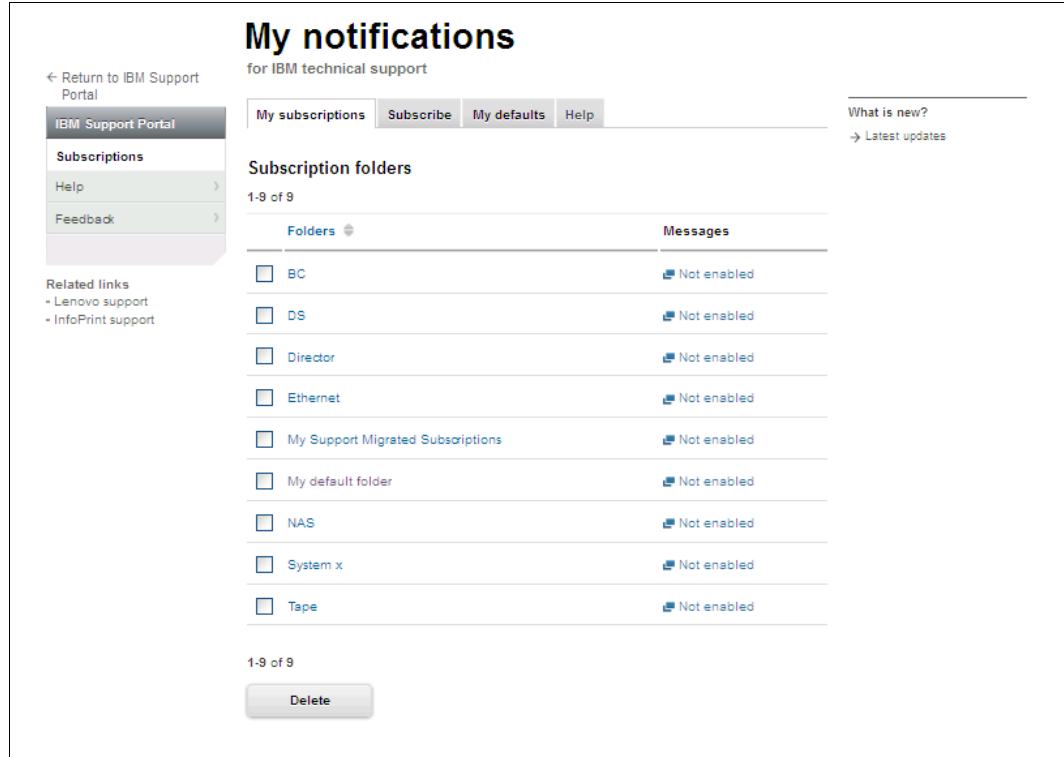

Figure A-18 My notifications
3. The My notifications main page opens, as shown in Figure A-18.